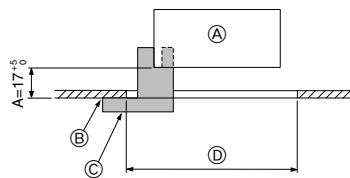

Fig. 5-2
①	Grille	1	950 × 950 (mm)
②	Screw with captive washer	4	M5 × 0.8 × 25
③	Gauge	1	(Divided into four parts)
④	Fastener	2
⑤	Screw	4	4 × 8
5.2. Preparing to attach the grille (Fig. 5-2)
- With the gauge ③ supplied with this kit, adjust and check the positioning of the unit relative to the ceiling. If the unit is not properly positioned relative to the ceiling, it may allow air leaks or cause condensation to collect.
- Ⓒ Gauge ③ (inserted into the unit)